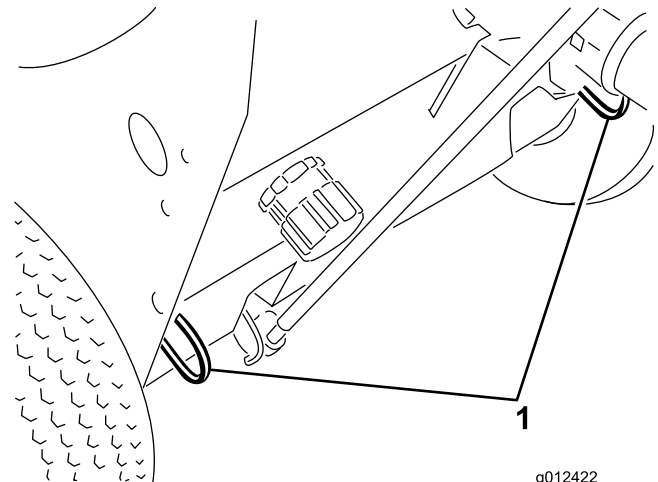
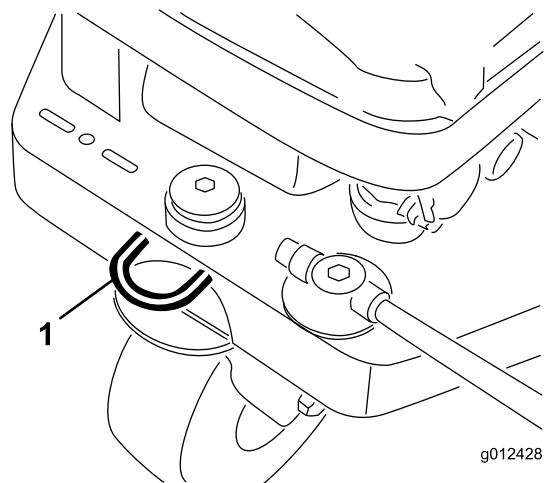

Figure 35
Figure 36
- Fasten the line painter tie downs (Figure 35 & Figure 36) to the trailer or truck with straps, chains, cable, or ropes.